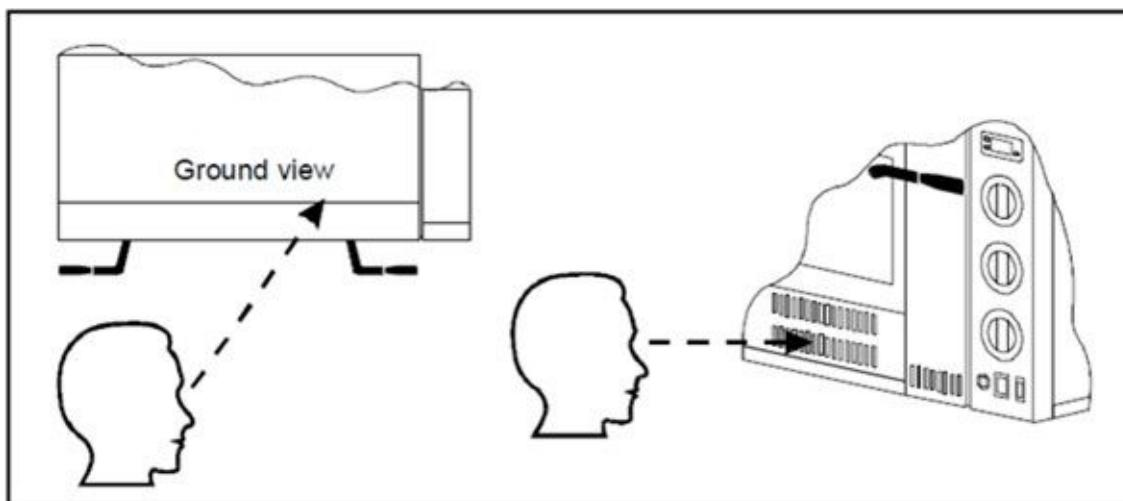

FIG.15
- 5) Turn the knob of the main gas supply valve (fig.14-ref.4) to the position keep the knob pressed and at the same time press the piezoelectric ignition of the pilot light several times (fig.14-ref.5). As soon as the pilot lights, release the knob. the pilot must remain lit if not repeat the operation. The pilot light can be controlled through the openings located on the right side of the front panel (fig.3-ref.2) by looking inwards observing an inclination of approximately 45° to the right (FIG.15);